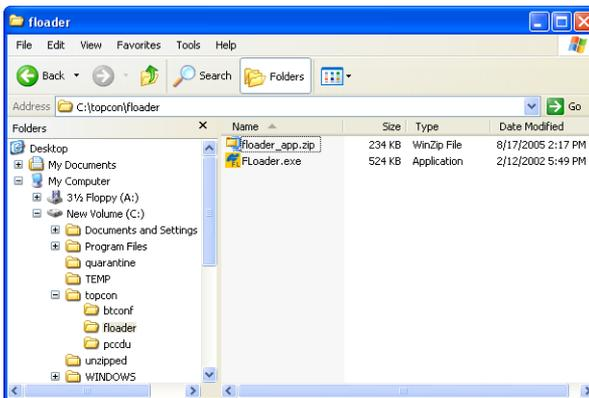

Figure 2-2. Extract Program and Create Shortcut
3. Extract the FLoader.exe file to the FLoader folder (Figure 2-2).
4. Create a shortcut on the computer's desktop for quick access to FLoader (Figure 2-2).